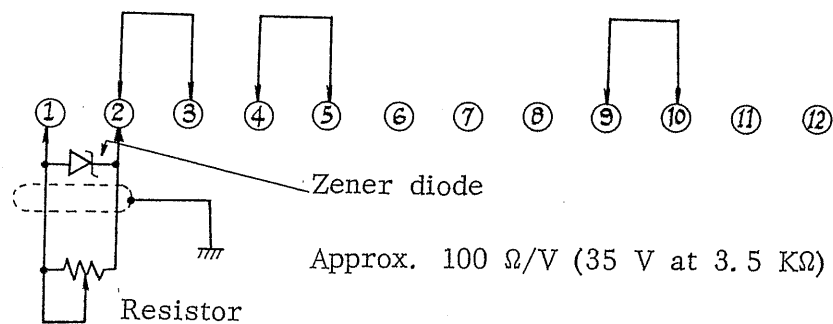

Fig. 13
- (1) In remote programming, the output voltage control knob COARSE on the front panel becomes unusable, and output voltage is controlled by means of the resistor externally connected. Since the value of the resistor is $3.5 \text{ K}\Omega$ at 35 V, the index becomes $100 \text{ }\Omega/\text{V}$. When it is desired to prevent the output voltage from increasing beyond a certain value, connect a zener diode of little leakage current as shown in Fig. 13. Then the output is not increased any further than the desired voltage.
- (2) When a distance between Model 7124A and the external resistor is long, the wire from the resistor picks up induced signals on the way and therefore the output characteristic is deteriorated. To avoid this, be sure to use a double-conductor shielding wire, and connect its outer conductor with the GND terminal of Model 7124A.
- (3) In remote programming in the case of parallel or series operation, the output voltage is controlled by connecting the external resistor with (1) - (2) and short-circuiting (2) - (3) of the master as in the case of single operation. As for other operations, refer to the respective pages describing the corresponding operations.